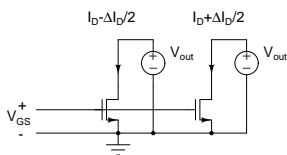

Figure 4:
- Two transistors carrying a current I_D are required to have a current mismatch $\leq \sigma_{I_D}$ and operate in saturation with an output voltage V_{out} (Fig. 4). Compute the transistor dimensions and its f_T in terms of the mismatch constants A_{VT} and A_β , I_D , σ_{I_D} and V_{out} . Comment on the tradeoffs implied by this relationship.